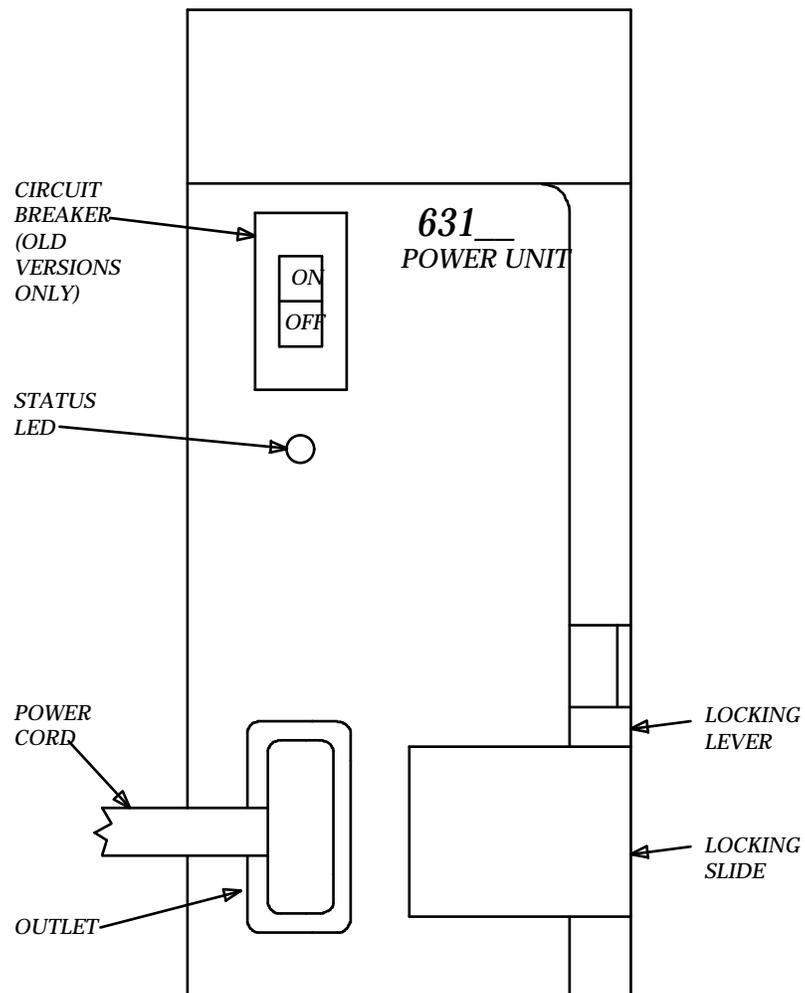

FIGURE 5-9. 631-Type Power Unit
14. Connect the power cords to the power units. The power leads are the white cables equipped with plugs that are run through the slots in the front of each carrier (see Figure 5-9).